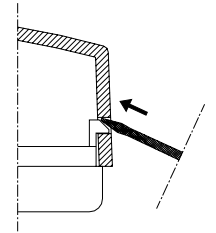
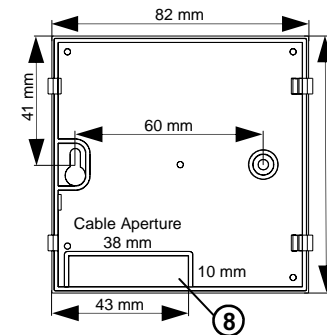

Fig. 3
Fig. 4.
3. Fissare la base del termostato alla parete tramite le due sedi per viti con interasse 60 mm (Fig. 4).
2. Remove plastic cover by moving to the inner side, through the use of a tool (Fig. 4), the two plastic teeth (3) located on the left side (Fig. 3) of the thermostat.
4. Make the electrical connections, routing the wires through the rectangular opening (8) and following to the diagram of Fig. 4.